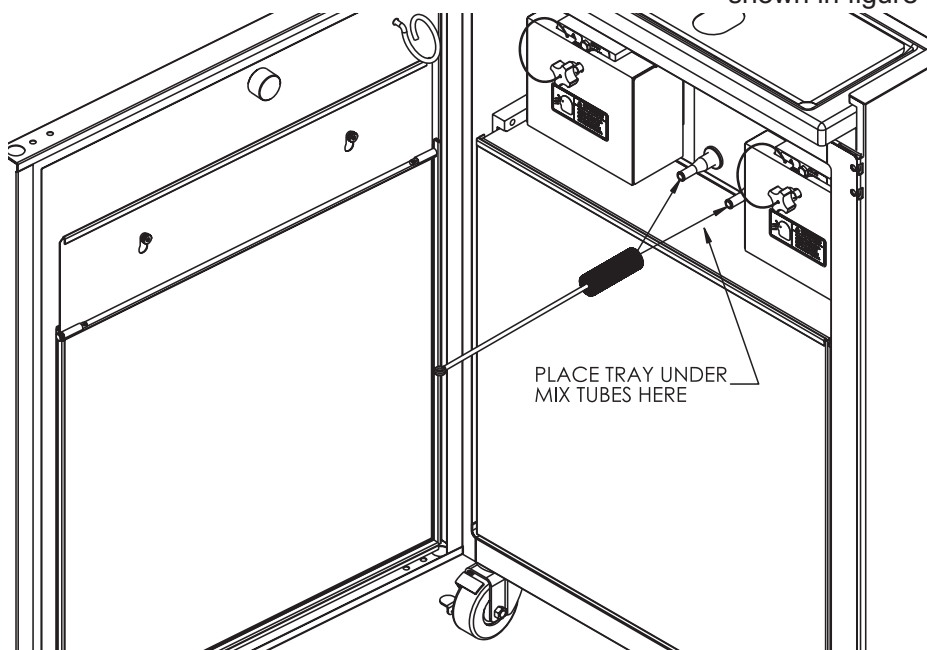

Figure 8-11 Brush inside of cylinder mix feed tubes
- a. mix feed tubes from the refrigerated cabinet to the cylinders as shown in figure 8-11
- c. the inside of the drain tube as shown in figure 8-11.
1. Remove the o-rings and slide the shoe off of the pivot arm and the swing clamp off of the clamp arm. See figure 8-11.